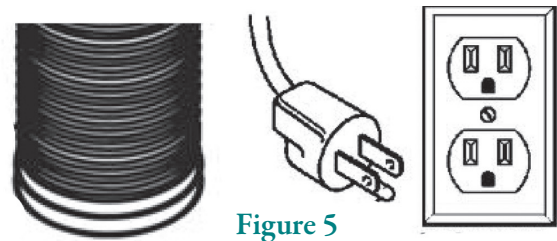

Figure 5
- 6 Make your electrical and ducting connections. Try and minimize the use of elbows. More elbows and longer runs create higher static pressure. The hood comes with a grounded three prong plug that can either be direct wire or plugged into a 20amp. circuit. (Figure 5)